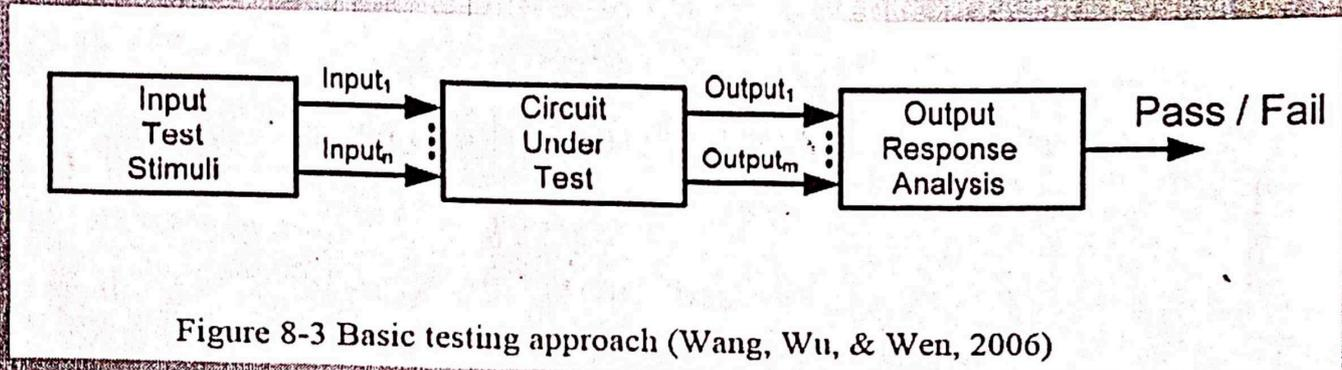

Figure 8-3 Basic testing approach (Wang, Wu, & Wen, 2006)
- A typical circuit testing process is illustrated in Figure 8-3, which consists of applying a set of test stimuli to the inputs of the circuit under test (*CUT*) while analyzing the output responses.